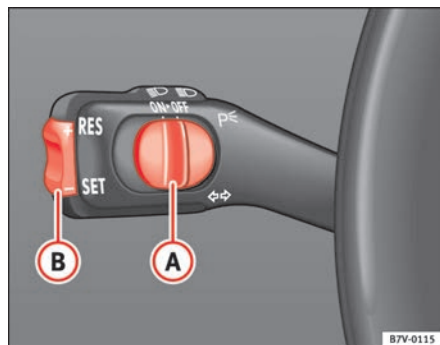
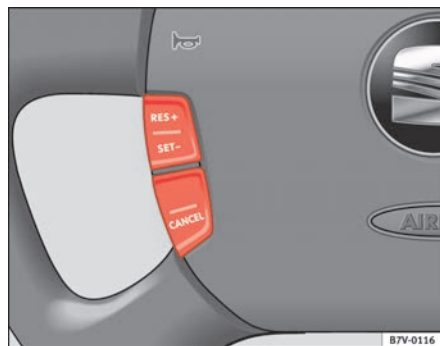

Fig. 133 Turn signal and main beam headlight lever control (A) and rocker switch (B) for cruise control
Fig. 134 Multifunction steering wheel: CCS controls
- Move the control ⇒ fig. 133 (B) to the left to **ON**. The  symbol lights up in the combi-instrument when the cruise control system is switched on.
- Move the control ⇒ fig. 133 (A) to the right to **OFF** or press the key ⇒ fig. 134 **CANCEL** once.
- Press the lower part **SET** of the rocker switch ⇒ fig. 133 (B) once briefly when you have reached the speed you wish to set ⇒ fig. 134 **SET-**. This speed is then stored and maintained.
- To reach the desired speed hold down the upper part of the rocker button **RES+** ⇒ fig. 133 (B) or button ⇒ fig. 134 **RES+**.
- To reach the desired speed hold down the lower part of the rocker button **SET-** ⇒ fig. 133 (B) or button ⇒ fig. 134 **SET-**. The speed falls as the vehicle is no longer accelerating, not due to sharp braking.
To resume the control function, release the brake or clutch pedal, move the switch **A** to ON or press the button ⇒ page 178, fig. 133 **RES+** or button ⇒ page 178, fig. 134 once.
- Push the switch ⇒ page 178, fig. 133 **A** to “OFF”, or